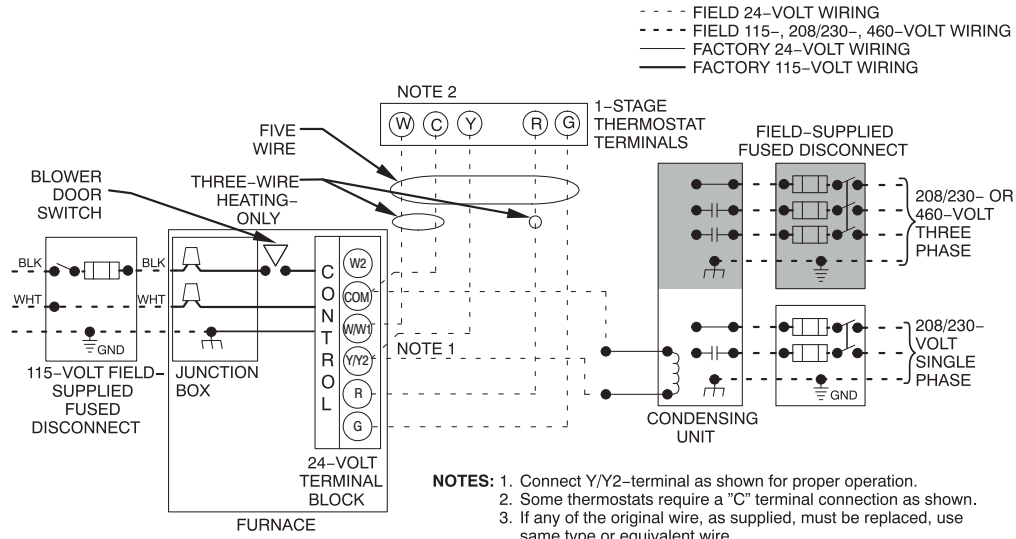

Fig. 37 – Typical Two-Stage Field Wiring Diagram
6. Connect power cord power and neutral leads to furnace power leads as shown in Fig. 37.
5. Connect field power and neutral leads to furnace power leads as shown in Fig. 37.
Make field 24-v connections at the 24-v terminal strip. See Fig. 38. Connect terminal Y/Y2 as shown in Fig. 37 for proper cooling operation. Use only AWG No. 18, color-coded, copper thermostat wire.